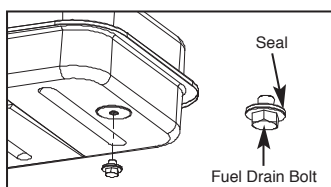

Figure 12 - Drain Bolt
5. Reinstall Fuel Drain Bolt to Fuel tank and tighten firmly using 3/4" socket or adjustable wrench. (For Models 3VE50H, 3VE51H, 3VE52I only. See Figure 12)